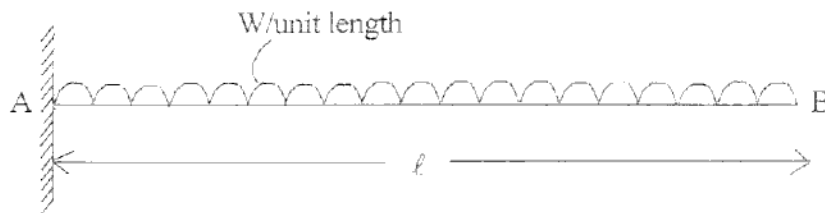

FIG. 9
- (b) Derive the equation for maximum deflection for FIG. 9 shown below.